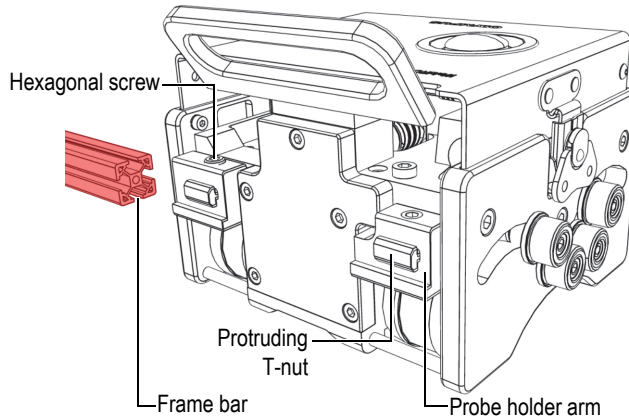

Figure 2-8 WeldROVER—Installing the frame bar
2. Use the supplied hexagonal key to loosen the screws located on each of the probe holder arms (Figure 2-8 on page 41).
2. Insert the t-nut into the appropriate groove on the frame bar (Figure 2-8 on page 41).